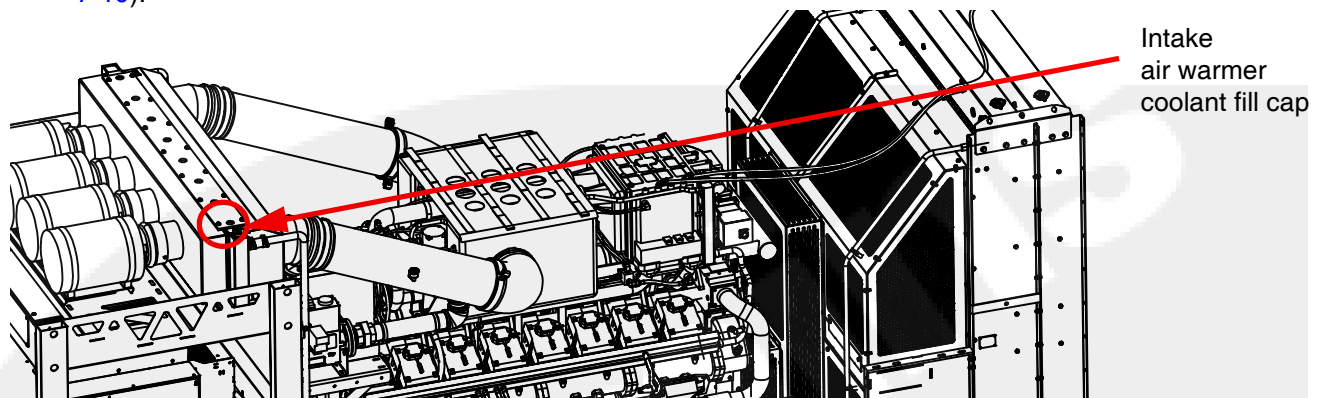

Figure 7-19 Intake air warmer coolant fill cap (GenSet right side)
3. Twist the intake air warmer fill cap counter-clockwise and open the intake air warmer fill port (see Figure 7-19).